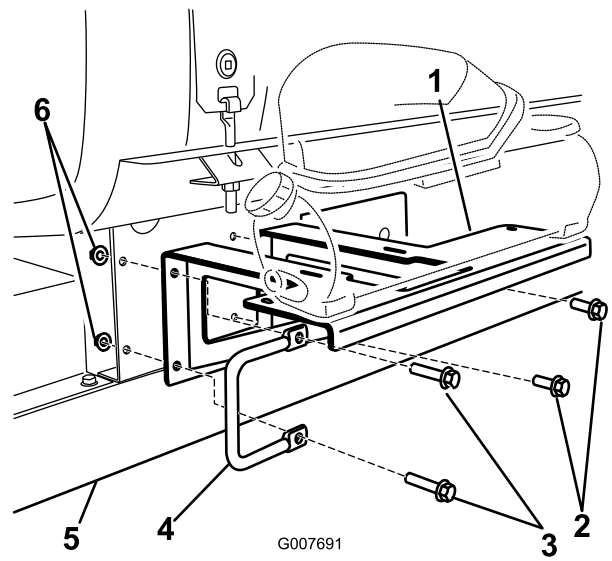

Figure 6
3. Mount the bracket to the frame using 2 bolts (3/8 x 1-1/4 inches), 2 washers (3/8 inch), 2 flange nuts (3/8 inch) included in loose parts; and the left handle and fasteners removed previously (Figure 6).